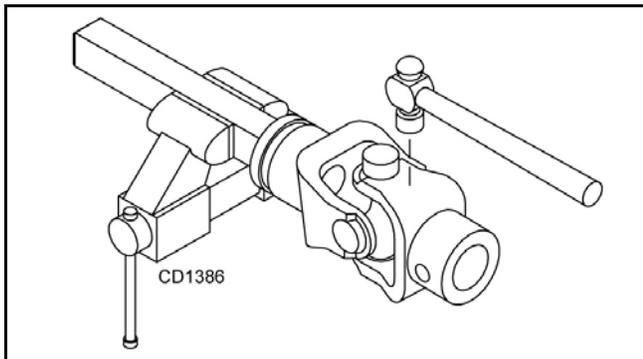

Figure 22.
2. With snap rings removed, support drive in vise, hold yoke in hand, and tap on yoke to drive cup out of yoke. See Figure 22.